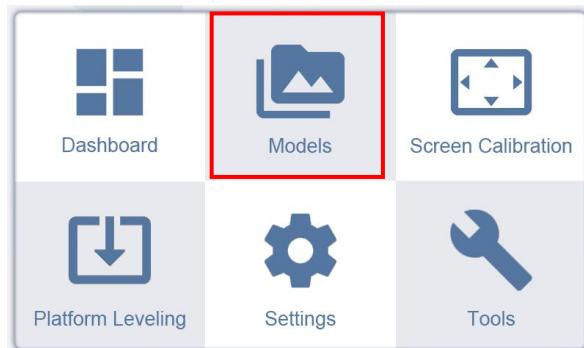

Figure 3-22
4. Model printing: Click on "Models" in the main menu as shown in Figure 3-22 to enter the model selection page, as shown in Figure 3-23.